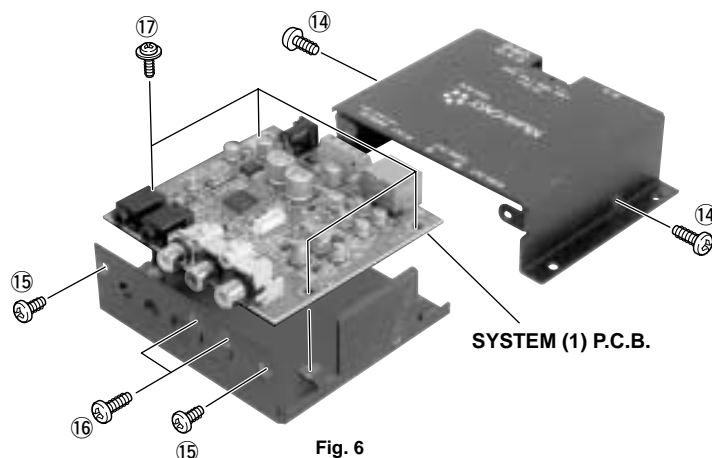

Fig. 6
- a) Remove 2 screws marked [14] and 2 screws marked [15]. (Fig. 6)
- b) Remove the Cover by sliding it rearward. (Fig. 6)
2. Removal of SYSTEM (1) P.C.B.
- a) Remove 2 screws marked [16]. (Fig. 6)
- b) Remove 4 screws marked [17]. (Fig. 6)
- c) Remove SYSTEM (1) P.C.B. by sliding it rearward. (Fig. 6)
- a) ⑭のネジ2本、⑮のネジ2本を外します。(Fig.6)
- b)カバーを後方へスライドさせ、取り外します。(Fig.6)
- a) ⑯のネジ2本を外します。(Fig.6)
- b) ⑰のネジ4本を外します。(Fig.6)
- c)SYSTEM (1) P.C.B.を後方へスライドさせ、取り外します。(Fig.6)